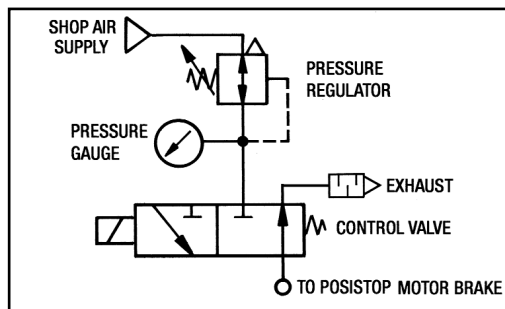

Figure 8 - Pneumatic Diagram
2. Install the (2) Screws (#169) and (2) Washers (#127) and Torque to 22 Lb. Ft.
5. Install appropriate external pneumatic valving. See *Figure 8* for a typical Pneumatic Schematic.